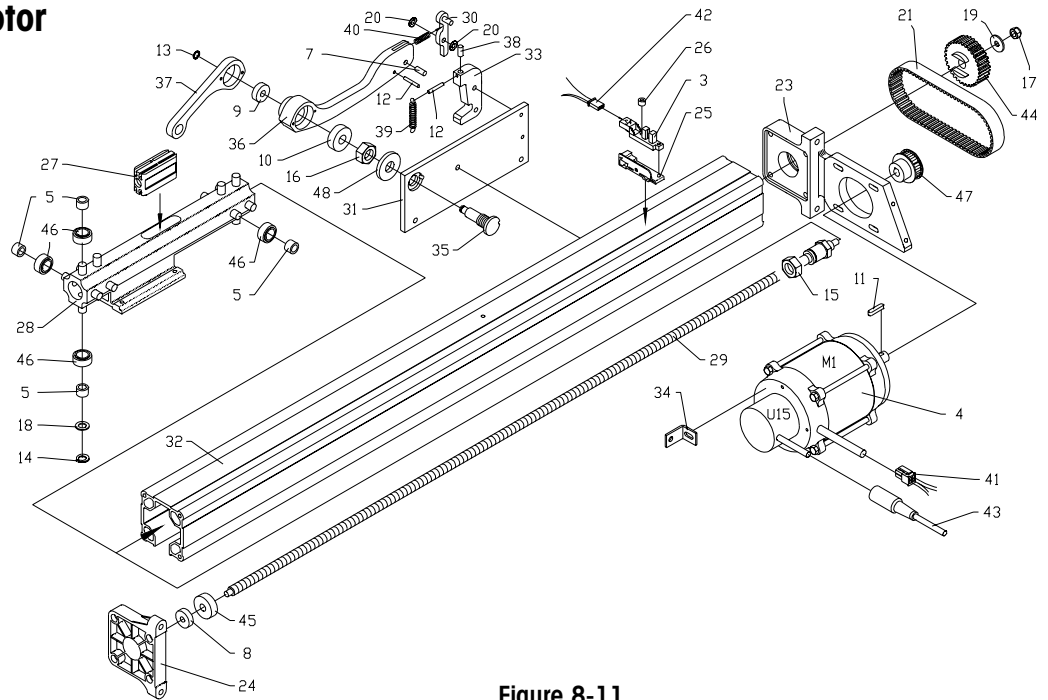

Figure 8-11
4. Remove the four mounting bolts on the motor mount (item 23 in Figure 8-11) and the bolt on the support bracket (item 34 in Figure 8-11).
5. Remove the drive belt (item 21 in Figure 8-11).
6. Remove the drive pulley (item 47 in Figure 8-11) from the motor shaft.
4. Remove the end support (item 24 in Figure 8-11).
5. Leaving the center clamp bolted to the carriage assembly, remove both from the end of the actuator case (item 32 in Figure 8-11).
7. Remove the actuator case from the motor mount (item 23 in Figure 8-11) by removing the four mounting screws. This will provide access to the lead screw.
8. Clean old grease and dirt from all parts and inside of the case. Also clean off the lead screw (item 29 in Figure 8-11) and the lead screw nut (item 27 in Figure 8-11). The lead screw and nut must be clean and free of any grease or dirt.